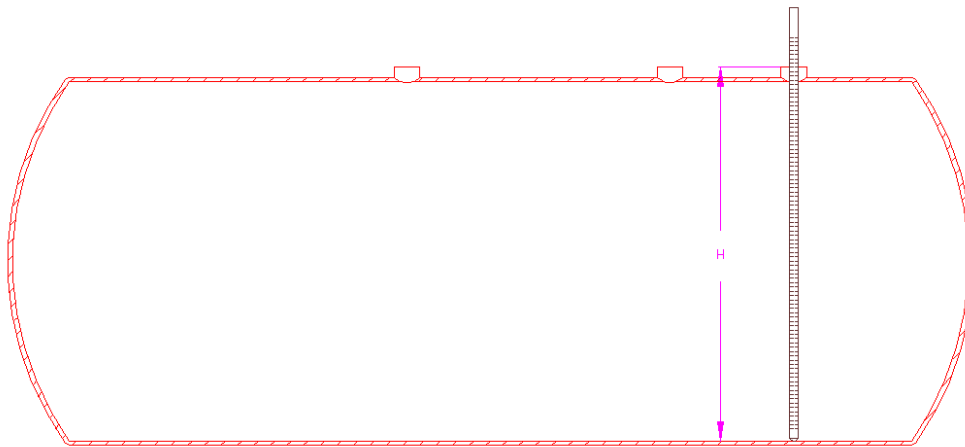

Figure 2 Tank Height Dimension
1. Measure the height H from the bottom of the tank as shown in Figure 2.